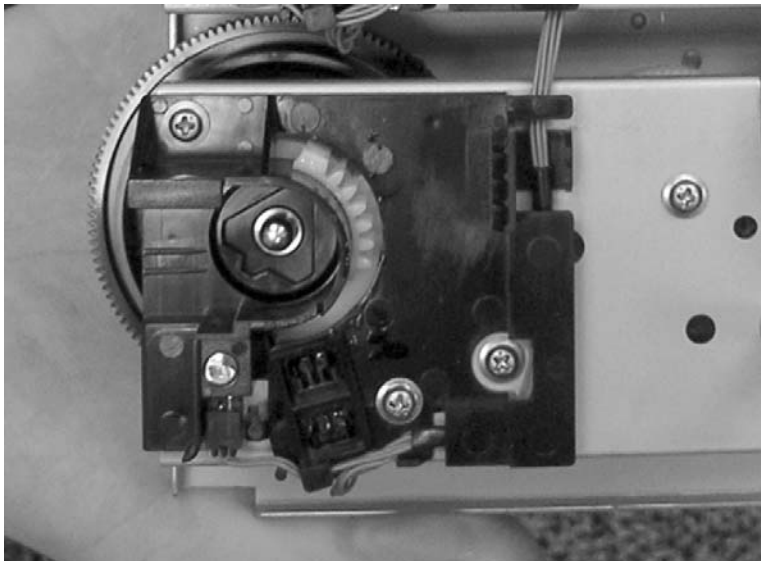

Figure 6-63 Remove the main drive assembly (9 of 14)
9. Disconnect the eight connectors (callout 17 and also shown in Figure 6-63 Remove the main drive assembly \(9 of 14\) on page 254) and unrout the cable (callout 18) from the cable guide (callout 19). Do not remove the black plastic covers under any circumstance. Then remove the main drive assembly.